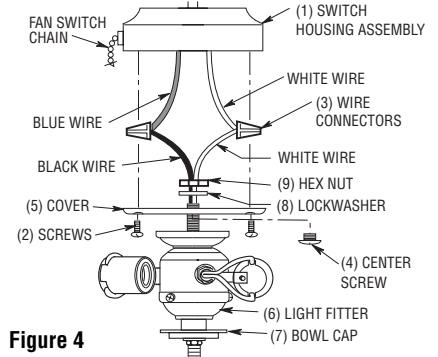

Figure 4
2. Remove the cover(5) from the fan switch housing(1) by removing the two outer screws(2). (See Figure 4).
3. Remove the center screw(4) from the cover(5). Insert the black and white wires from the light kit fitter(6) through the hole and thread the switch housing cover tightly onto the light kit fitter.
4. Insert the black and white wires through the lockwasher(8) and hex nut(9) supplied. Firmly tighten the hex nut to secure the light kit fitter to the switch housing cover(5).
5. Carefully locate the white and blue wires (labeled either "L" or "LIGHT") in the switch housing and remove the wire connectors(3) from the wires.
6. Connect the white wire from the ceiling fan to the white wire of the light kit fitter(6). Connect the blue wire from the ceiling fan to the black wire of the light kit fitter. Use the wire connectors provided with the light kit to make the electrical connections (Figures 4 and 5.)